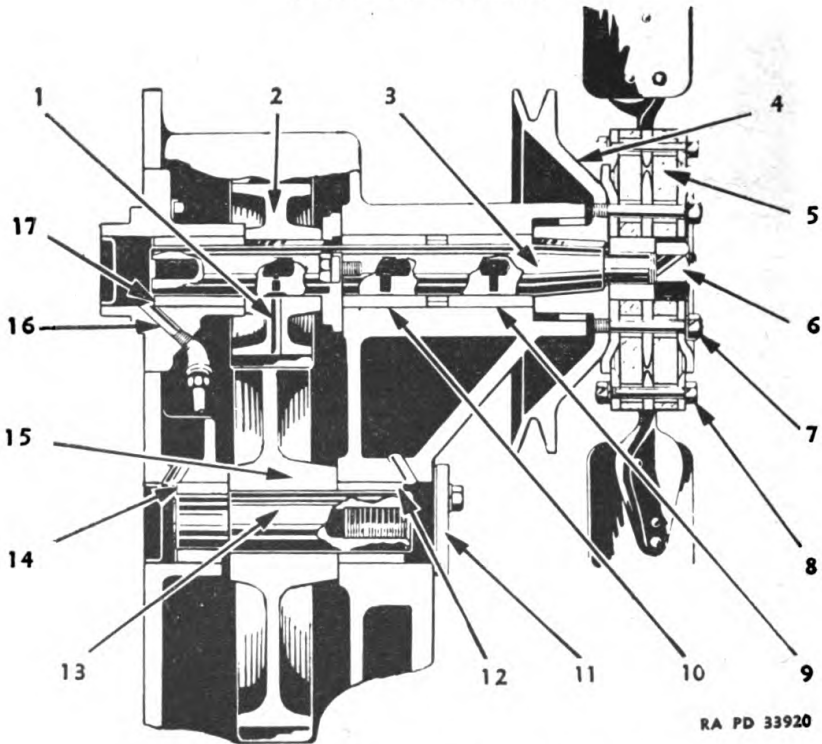

FIGURE 11.—Fan assembly—schematic.
b. Disassembly.—Remove overflow tube (2), fan shield (4), and guard (7). The top tank (1), bottom tank (9), and side plates (5) can be taken off by removing a series of capscrews at (3) and (8). New gaskets should be used in reassembly.
13. Fan (fig. 11).—*a. Removal.*—The fan is driven from the camshaft gear through an idler gear (15). Composition disks (5) in the
b. Disassembly.—Remove nuts (7) and slide fan off the hub. Disassemble fan by taking out bolts (8). If cracks appear in the composition drive disks, replace them. Nut (6) requires a $1\frac{5}{16}$ -inch wrench. Pulley (4) can be pulled from the shaft by using a screw type puller and $2\frac{3}{8}$ N. F. by 5-inch capscrews in the stud holes (7). Protect the end of the fan shaft while pulling the hub so the puller screw will not distort the threads.
14. Fan drive.—*a. Lubrication.*—The fan shaft bushings are pressure lubricated by crankcase oil entering the drilled fan shaft through tube (16) (fig. 11). Oil escaping through the passage (1) in gear (2) is sprayed throughout the timing gear housing as the gear is rotated. Some of the lubricant from the fan shaft is caught in a reservoir at each end of the idler gear shaft to lubricate the idler shaft bushings.
b. Disassembly.—Should it be desired to replace the fan shaft or idler shaft bushings, the timing gear housing should be removed. With the fan and pulley (4) off the shaft, the shaft (3) and gear (2) can be withdrawn from the rear of the housing. Idler shaft (13) is pressed into gear (15). The shaft is threaded for a $\frac{5}{8}$ -inch, 18-puller screw made accessible by removing plate (11).